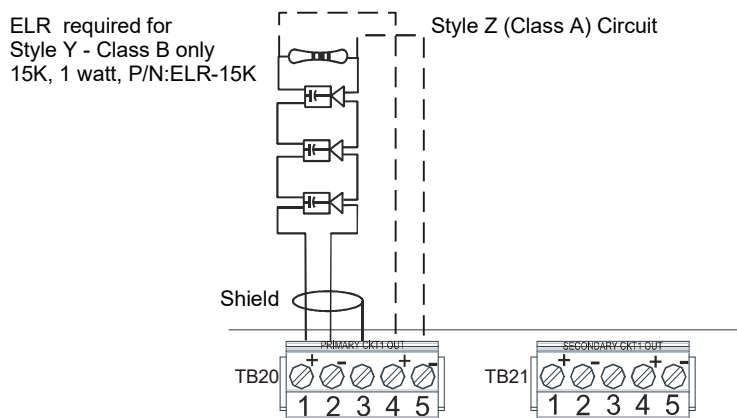

Figure 2.15 Speaker Circuit Connections
7. Connect field wiring to TB21 on the main control board (if not using the amplifier as backup). Refer to Figure 2.15 on page 31 for illustration of speaker connections if the amplifier is being used to expand system power to 100 watts (providing dual 50 watt speaker circuits).